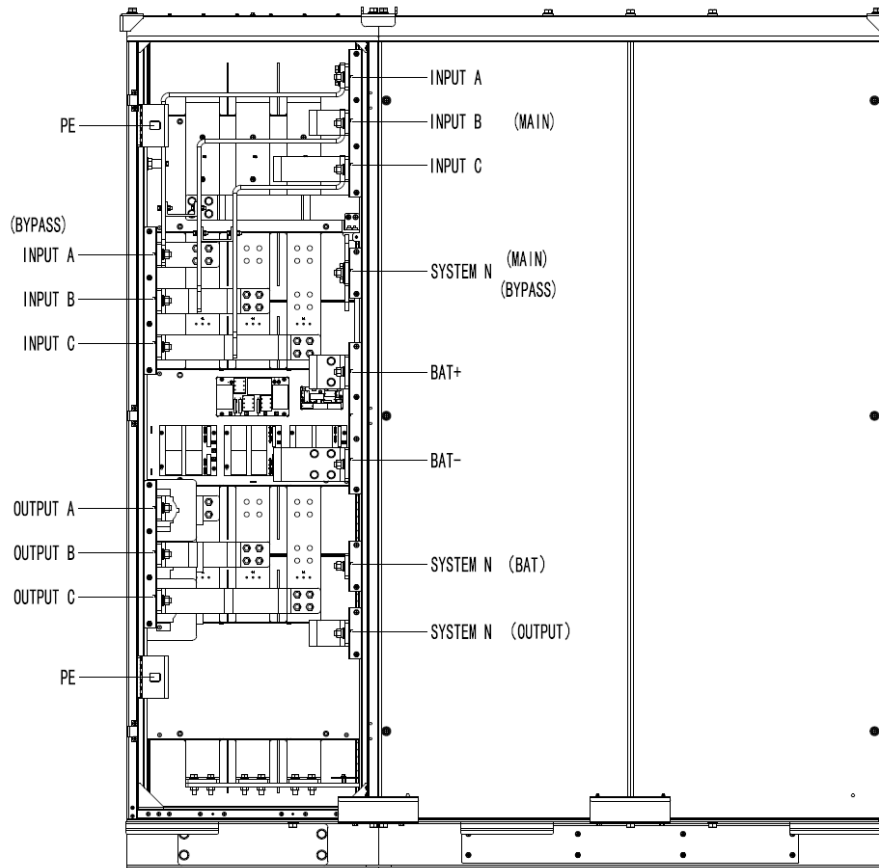

Figure 3-22 Terminal block layout diagram
Step 2: Open the back door of the cabinet and remove the protective cover. The input and output terminals, battery terminals and grounding terminals are visible. The wiring terminal layout is shown in Figure 3-22:
Step 4: Connect the AC input cable to the UPS input terminal (Main Input) according to Figure 3-22; connect the output load cable to the UPS output terminal (Output);